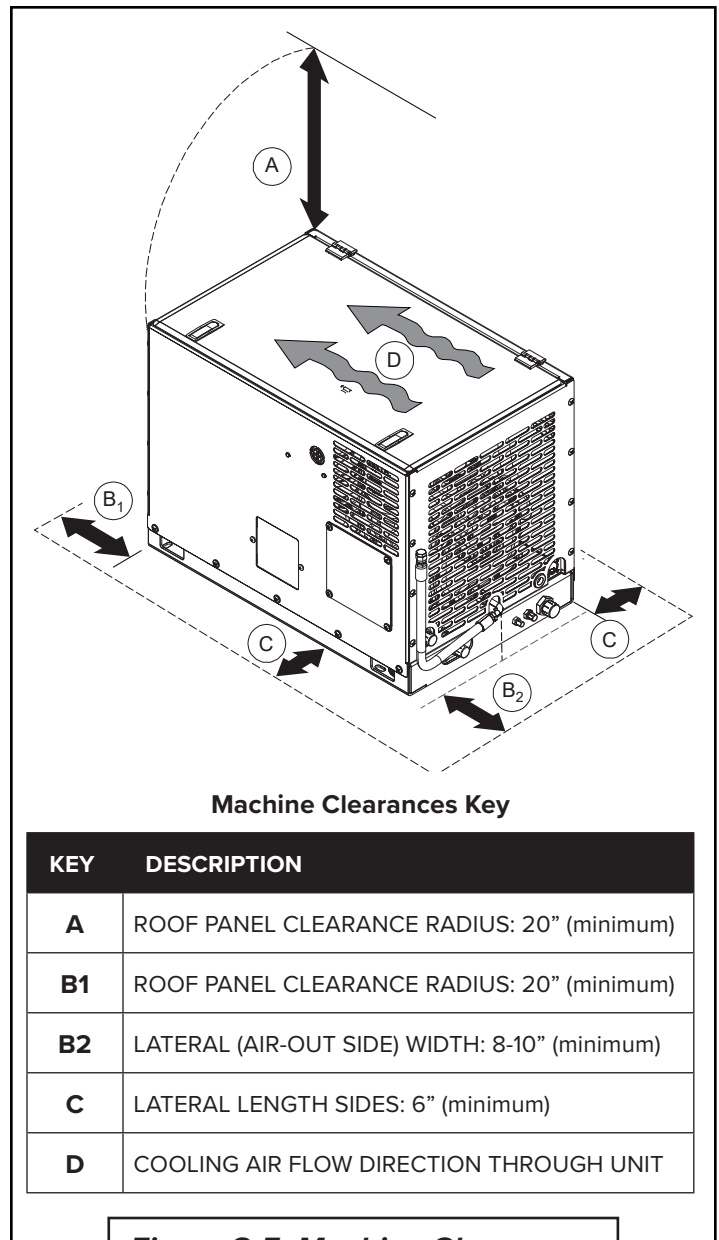

Figure 3-5: Machine Clearances
It is vital to locate the machine so that there is no restriction of cooling air through the enclosure (Refer to **Figure 3-5**). Cooling air enters the enclosure at the right end when facing the instrument panel end of the machine, passes through the cooler and exits through vents in the upper sides and the rear.
(Refer to **Figure 3-5**.) Ensure that adequate surrounding clearance spaces given in the figure exit around the machine to allow for adequate cooling ventilation through the canopy shroud, for unobstructed service and maintenance access, and to make sure there is a clear view of the control panel.
Mounting surface or support should be sturdy enough to easily support the full weight of the machine 285 lbs (129.3 kg) and should be level during normal operation. Mounting holes are located in the frame footing for four (4) 1/2 in hold down bolts. (See **Figure 3-5** for dimensions.)